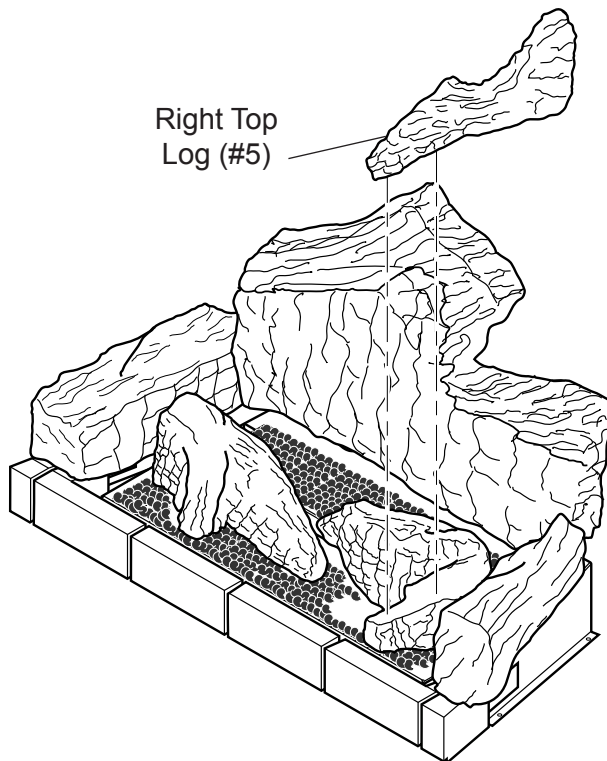

Figure 53 - Installing Right Top Log (#5)
9. Place right top log (#5) on top of right mid log and top of bottom right log. *See Figure 53.*